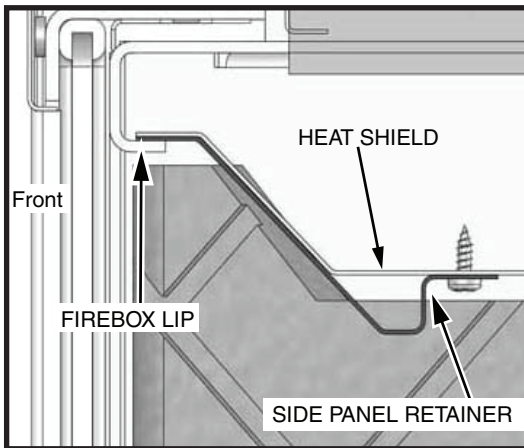
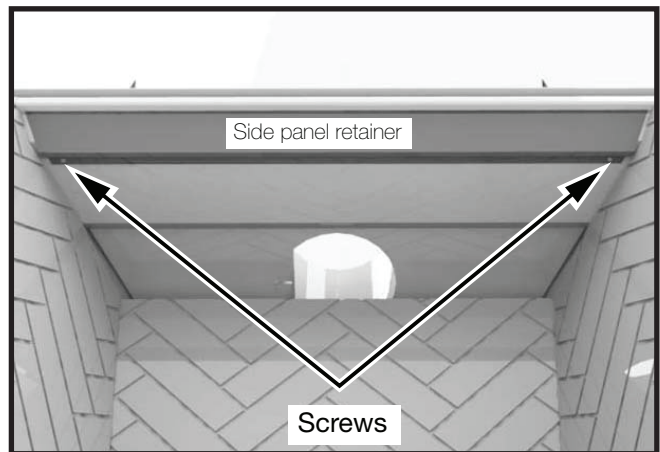

Figure 46: Side panel retainer (side view).
Figure 47: Side panel retainer screws location.
1. Remove the Side Panel Retainer located on the underside of the firebox heat shield. The retainer slips between the lip of the firebox and the heat shield and is retained in place by two screws (Figure 46 and Figure 47) .